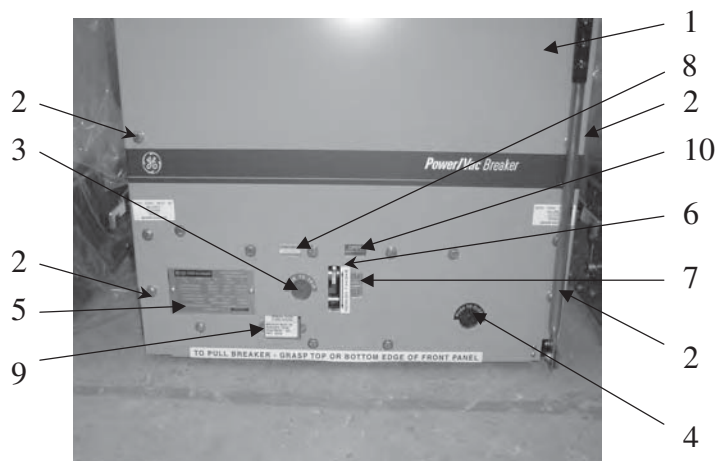
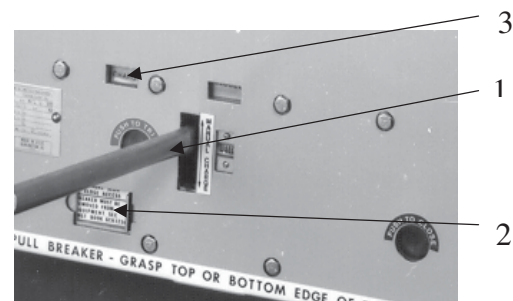

Figure 1 Front view of PowerVac breaker with front cover
Figure 4 Manual charging
The circuit breaker has been shipped in the "CLOSED" position. After removing packing material, open the breaker by pushing in firmly on the manual trip button (item 3, Figure 1), while keeping hands away from moving parts, and verify that the operation counter advances one count.
Manually charge the breaker closing spring using the charging handle provided (item 1, Figure 4). The closing spring is charged by a ratcheting mechanism that advances by one ratchet tooth at a time. When the spring is fully charged and the spring load is held by the closing latch, the spring indicator (item 3, Figure 1) will change from "DISCHGD" to "CHARGED", and a positive snap will be heard as the spring travels over center.
CAUTION: AFTER THE SPRING IS COMPLETELY CHARGED, AS INDICATED IN FIGURE 4, FURTHER FORCING CHARGING HANDLE MAY CAUSE DAMAGE TO THE CLOSING LATCH AND ITS ASSOCIATED PARTS.